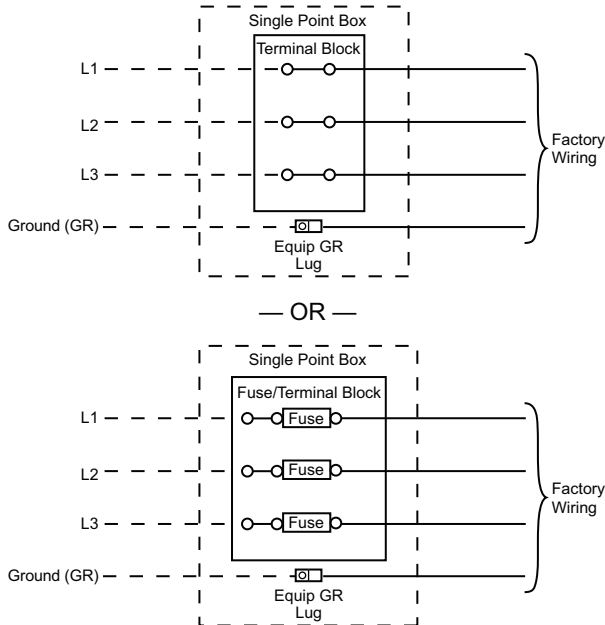

Fig. 26 — Power Wiring Connections
Field power wires are connected to the unit at line-side pressure lugs on compressor contactor C and indoor fan terminal block (IFTB) (see wiring diagram label for control box component arrangement) or at factory-installed option non-fused disconnect switch or HACR. Max wire size is #2ga AWG (copper only) per pole on contactors. #2ga AWG per pole on optional disconnect or HACR and 4/0 AWG per pole on terminal or fuse block on units with single point box. See Fig. 26 and unit label diagram for field power wiring connections. See Fig. 21-25 for typical wiring diagrams.
All field wiring must comply with NEC and all local codes. Size wire based on MCA (Minimum Circuit Amps) on the unit informative plate. See Fig. 26 and the unit label diagram for power wiring connections to the unit power terminal blocks and equipment ground. Maximum wire size is #2ga AWG per pole on contactors. #2ga AWG per pole on optional disconnect or HACR and 4/0 AWG per pole on terminal or fuse block on units with single point box. See Fig. 26 and unit label diagram for field power wiring connections.
2. Install power lines to terminal connections as shown in Fig. 26.